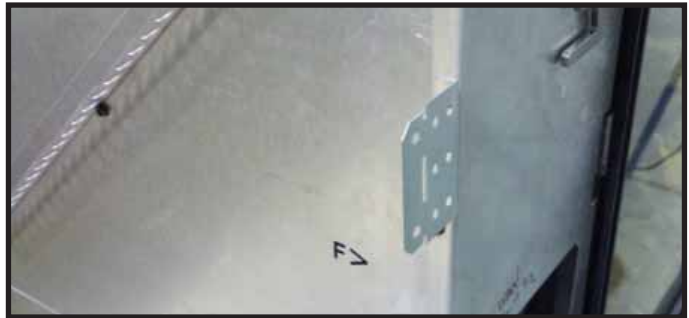

Figure 6.4 Side Nailing Tab Bent Out for Installation
- Bend out side nailing tabs 90 degrees. See Figure 6.4.